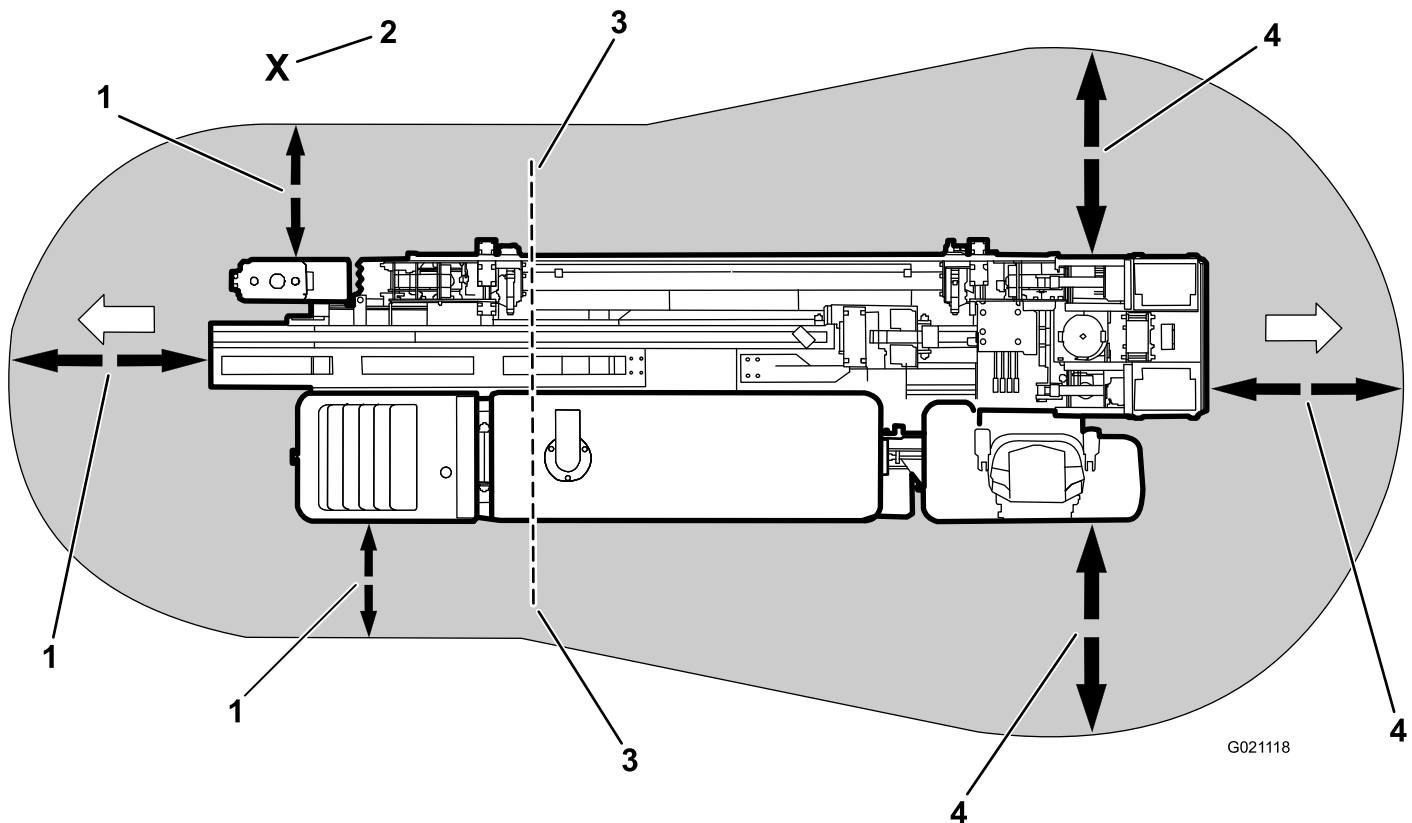

Figure 3
- Operate the drive pendant alongside the machine outside of the danger zone (Figure 3).